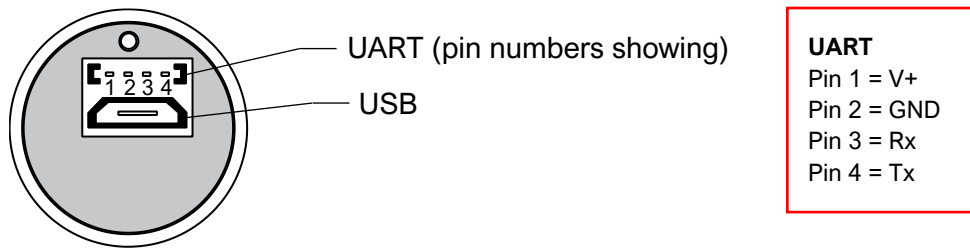

Figure 10: connector interface and pin assignment
Step 5: Connect the input trigger signal to the Rx pin (pin 3) on the probe's UART connector (see Figure 10) and the trigger system ground to the GND pin (pin 2).